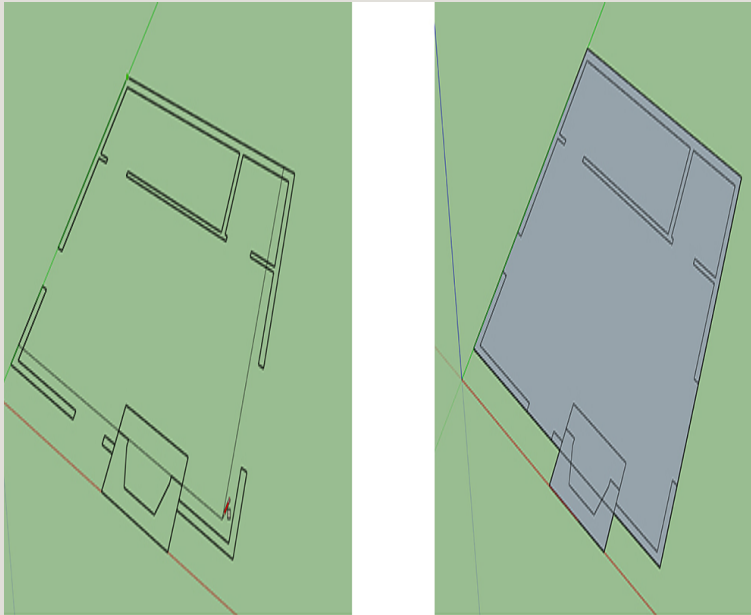

Figure 4-72 Drag a rectangle over the plan to make faces.
2. Make faces (Figure 4-72). The plan imports as lines, with no faces between them. Drag the Rectangle tool over it (click on opposite corners) to cover the whole plan with a face. The existing lines will break it into multiple faces.